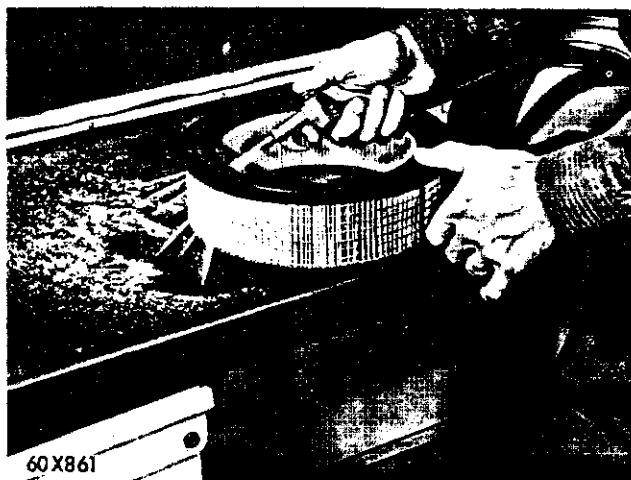

Fig. 6—Cleaning Filter Element Using Compressed Air
(1) Tighten the intake manifold bolts to 50 foot-pounds torque.
(2) Perform the cylinder compression test. Compression pressures can be read from the top side of the engine without interference using a 30 degree bend extension on the gauge. The compression should not vary more than 20 pounds between the cylinders.
(3) Test the coil and condenser. Inspect the primary and secondary cables. Tighten the terminal connections.
(4) Every 5,000 miles, remove filter element and blow out dirt gently with air hose. Direct air from inside out, and keep nozzle 2 inches away from element to avoid damaging. Clean the metal housing and replace the element. Every 15,000 miles, install a new factory recommended MoPar filter element. Service the unit more frequently when driving under severe conditions, such as in dusty areas. (Fig. 6)
(5) Test the fuel pump for pressure and vacuum. Refer to "Fuel System" Group 14, Data and Specifications.
(6) Perform a combustion analysis. Adjust the carburetor.
(7) Road test the vehicle as a final check.